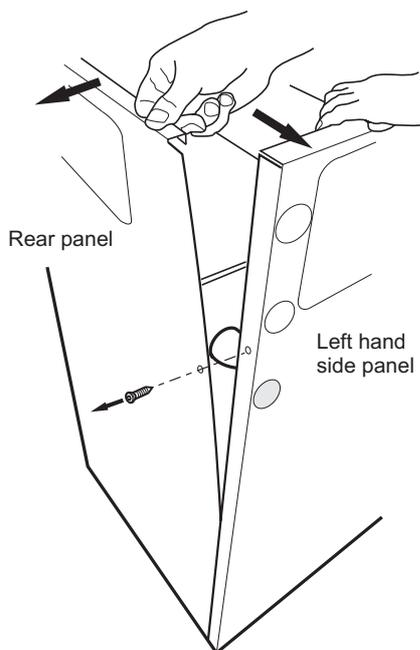

Fig. 16 - Remove the condensate trap
- 3 Carefully separate the left side and rear panels just enough to gain access to the condensate outlet on the left rear of the condensing heat exchanger (see Fig. 16).